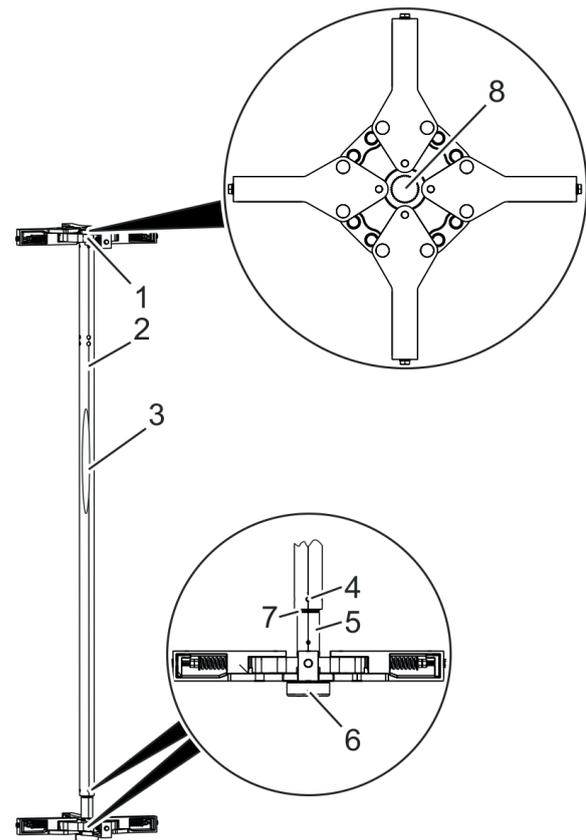

Fig. 92 Bookfold center column
2. Mark the shaft (Fig. 92/2) and insert (Fig. 92/5) with a fiber-tipped pen on the surface to facilitate future alignment.
3. Loosen the mounting screws (4x) at the circumference of the shaft (Fig. 92/4) and unscrew them.
4. Remove the circlip (Fig. 92/7).
5. Push the shaft (Fig. 92/2) and insert (Fig. 92/5) together.
9. Align the shaft (/ 2) at the lower end (/ 5) with the mounting holes and the felt tip mark. Fig. 92 Fig. 92
10. Insert the mounting screws (4x) at the circumference of the shaft (Fig. 92/4) in the existing holes and tighten them.
11. Slide the circlip (Fig. 92/7) onto the shaft (Fig. 92/2).
15. Fix the connection cover supplied over the inspection opening (Fig. 92/3).